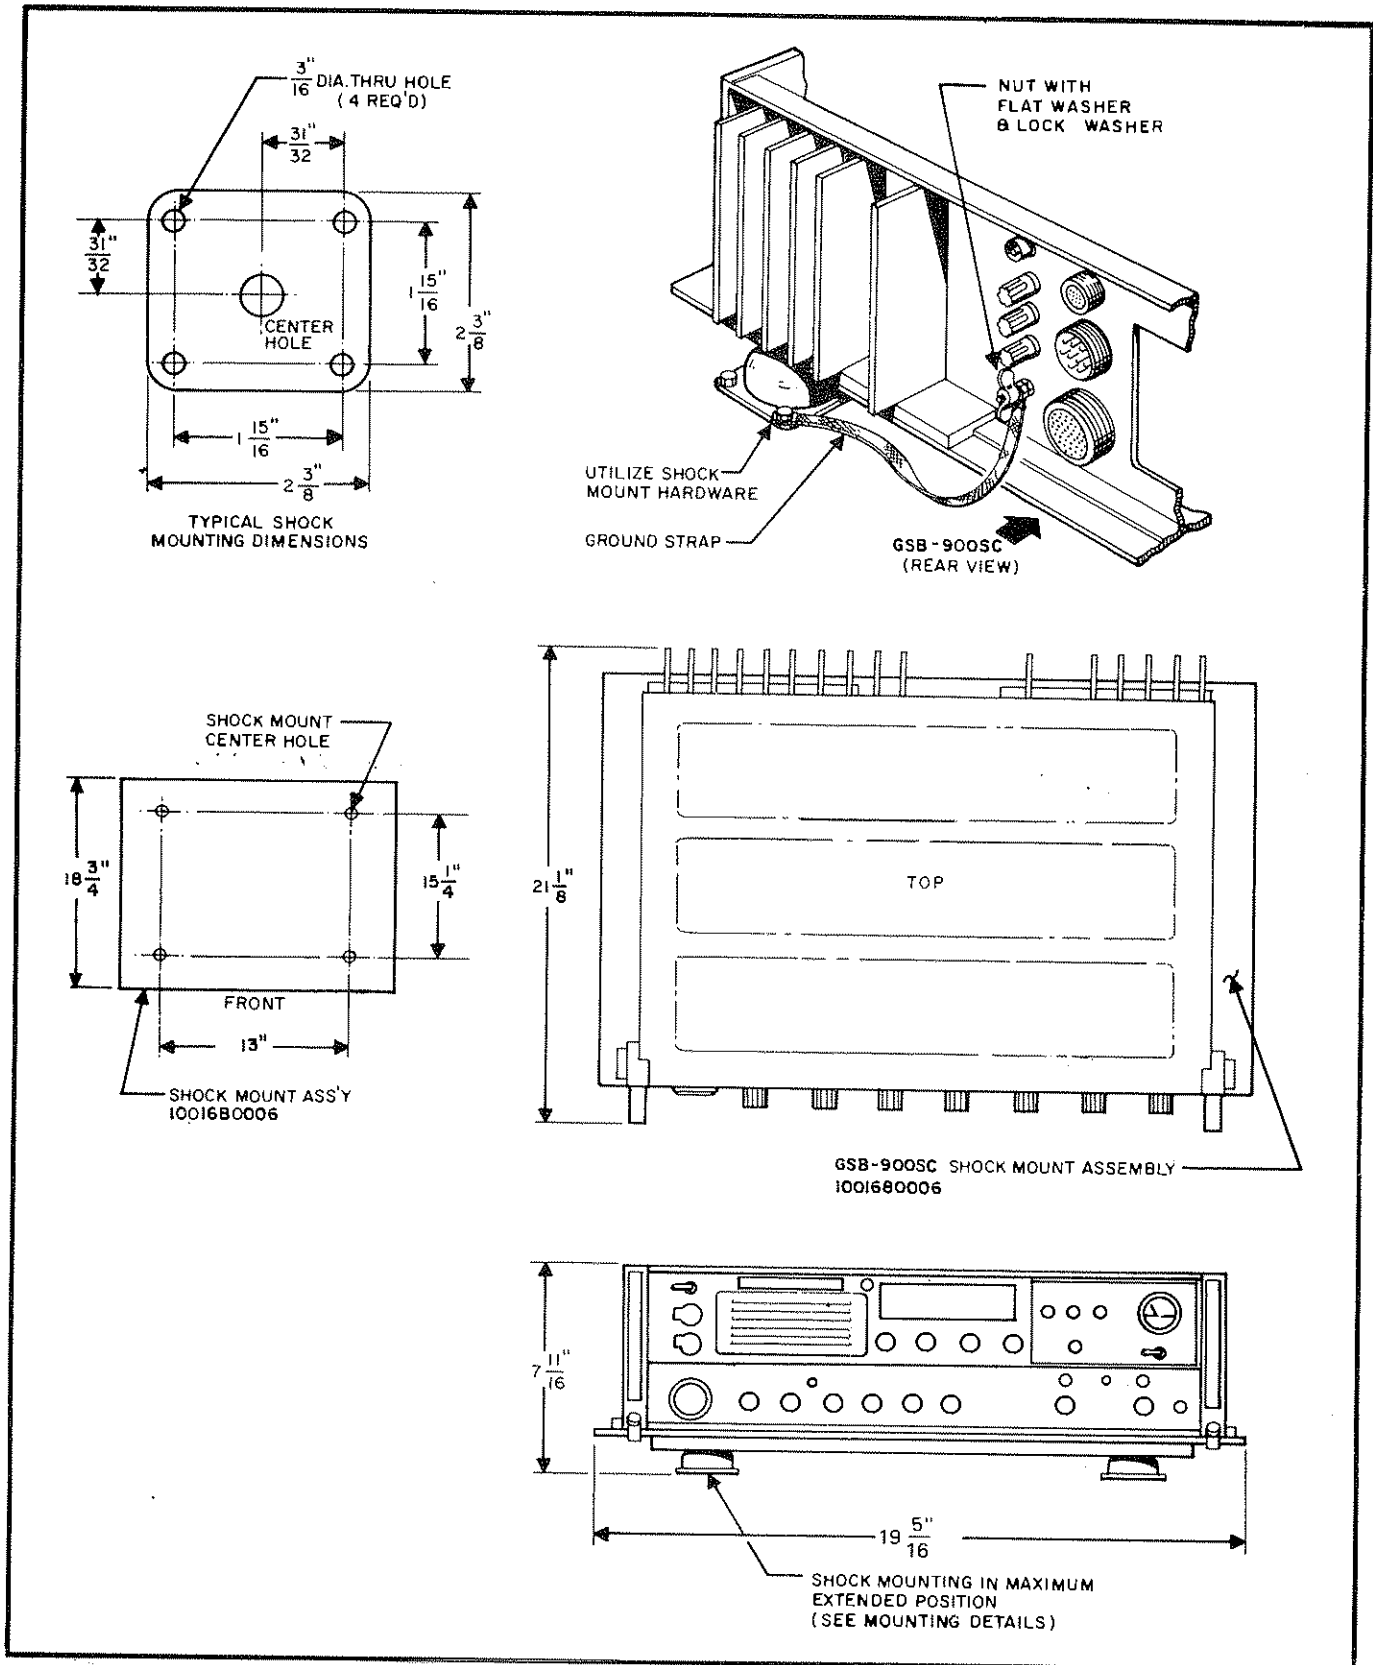
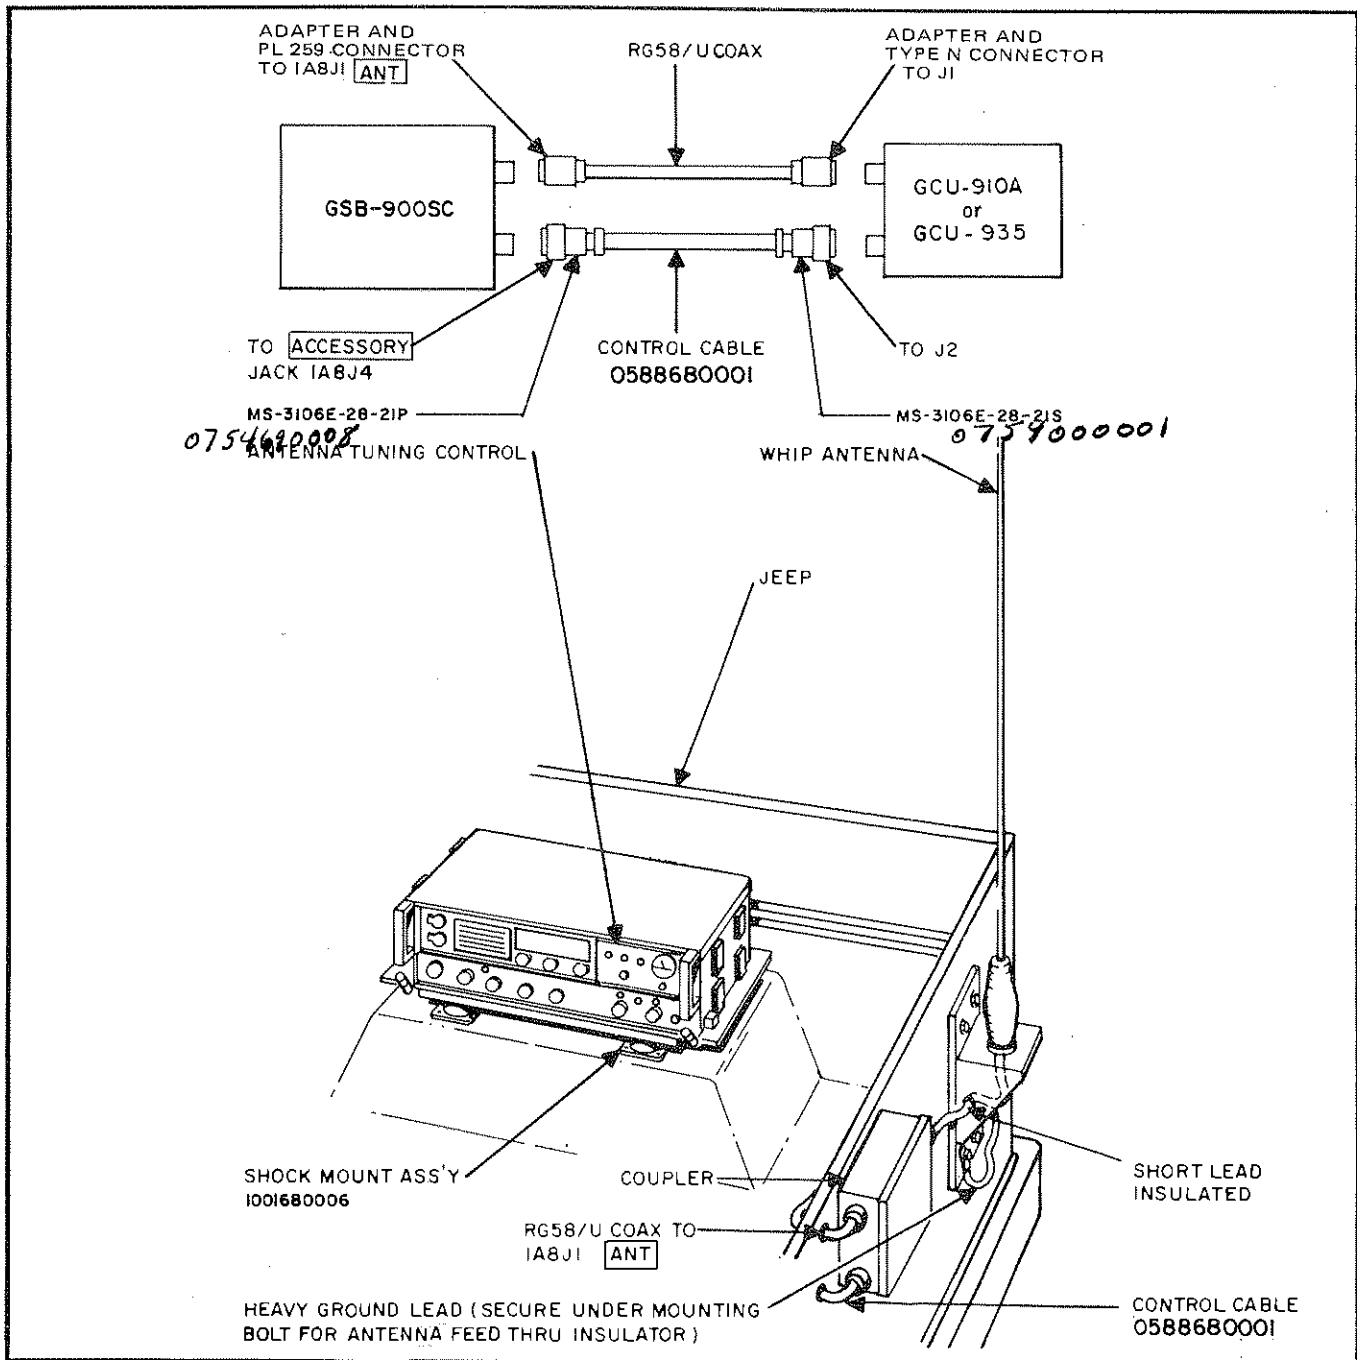

Figure 2.4 Shock Mount Assembly and Details
Figure 2.5 Typical Vehicular Installation
The GSB-900 SC Shock Mount Assembly (Sunair Part No. 1001680006) is designed to mount the Transceiver in vehicular installations. Figure 2.4 gives the applicable outline dimensions for the GSB-900SC coupled with the shock mount. Figure 2.5 shows a typical vehicular installation. See section
2.5 for specific antenna recommendations. In order to minimize R.F. pickup, it is important that the ground strap supplied with the shock mount be securely fastened between the ground post on the radio and the bottom of the right rear shock isolator (see detail, figure 2.4). It is also important to ground the antenna coupler to the frame of the vehicle by the shortest possible path,